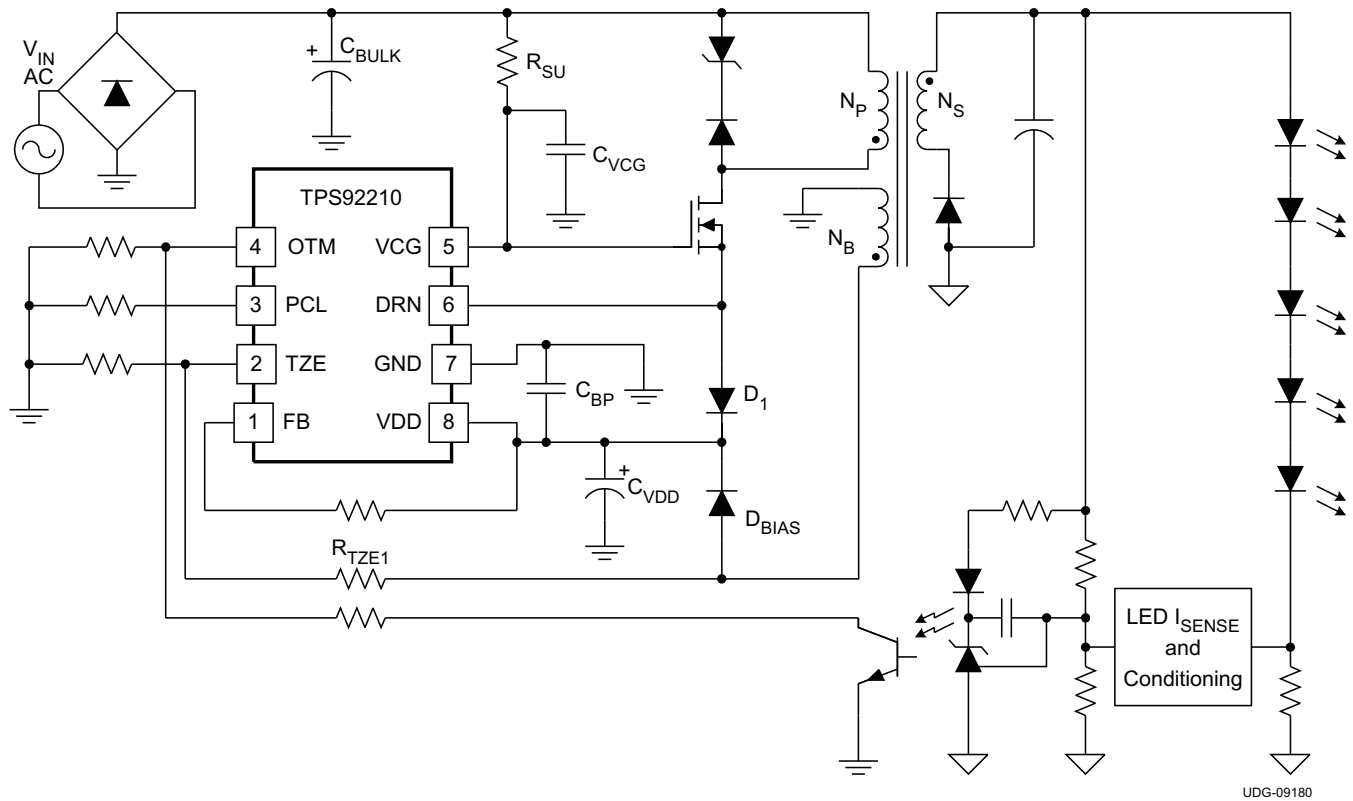

Figure 17. Typical Application
(1) Refer to the Electrical Characteristics Table for all constants and measured values, unless otherwise noted.
(2) Refer to Figure 17 for all component locations in the Terminal Components Table